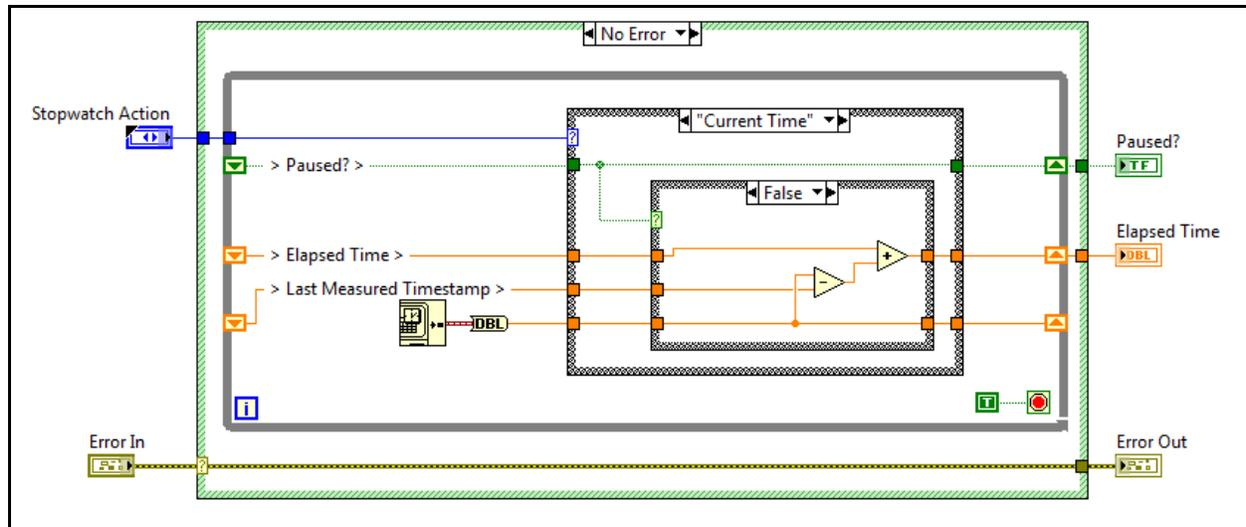

Figure 7. Completed False Case in the Current Time Case of the Functional Global Variable
15. Wire the False case as seen in Figure 7.